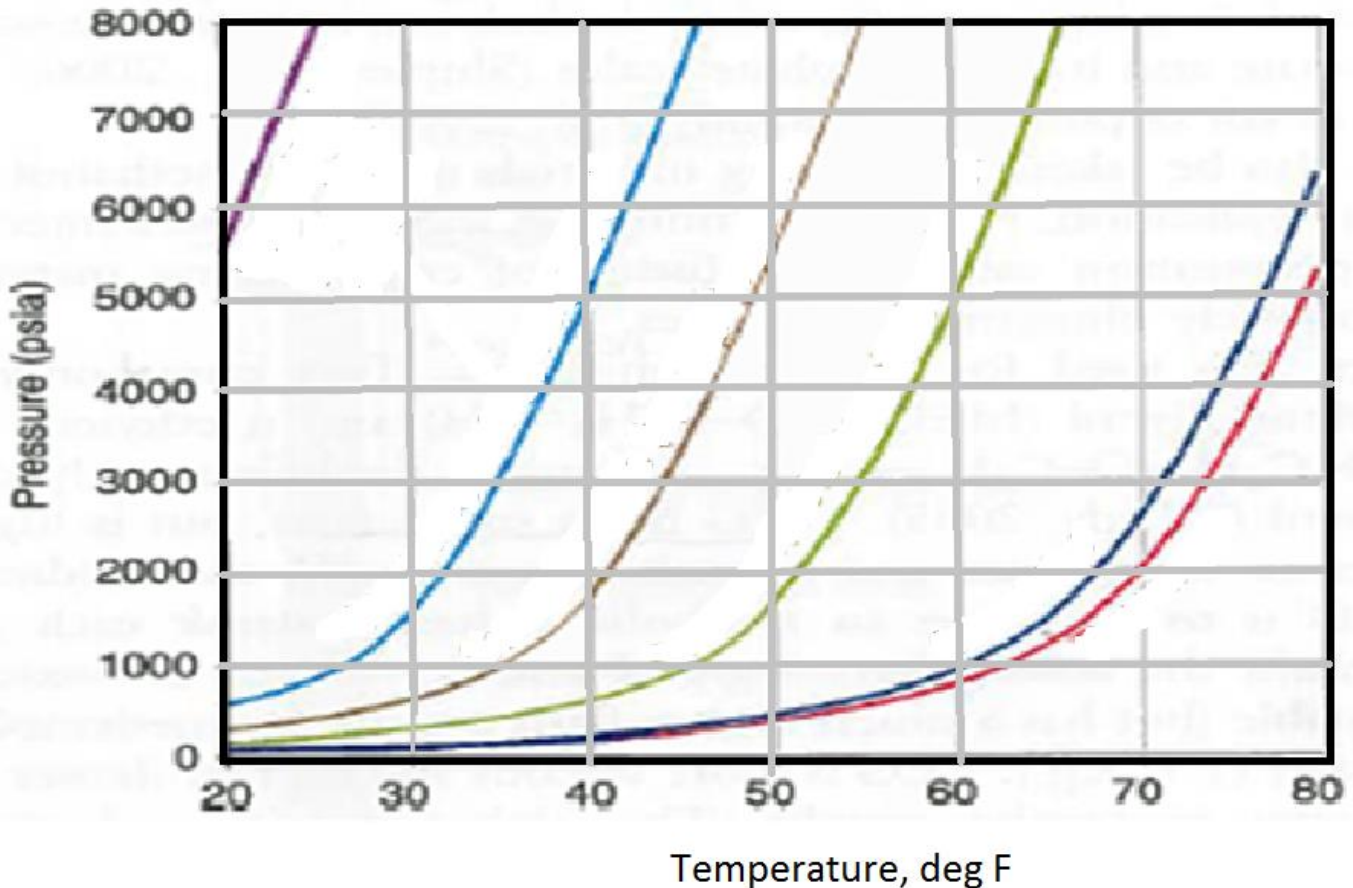

Figure 12: Thermodynamics hydrate stability
3. **Figure 12** shows hydrate stability curves due to the fluids systems listed from **A-F**. **Your task** is to select fluid system and indicate to which curve on the figure it represents.